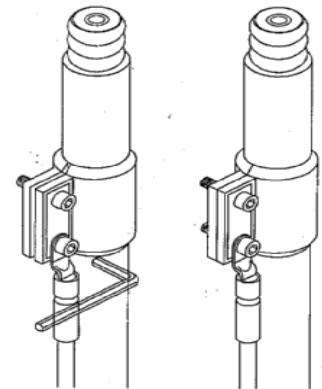

Figure 14
- d) Tighten the screws of the grounding kit, as show in Figure 14.